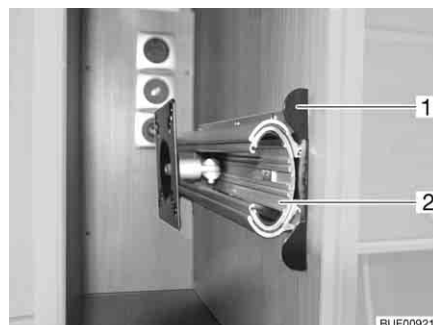

Fig. 67 Holder in the TV cabinet
- Push the unlocking bar (Fig. 67,1) in.
- Pull out the extension (Fig. 67,2) as far as possible.
- Push in the extension (Fig. 67,2) until the unlocking bar (Fig. 67,1) engages.